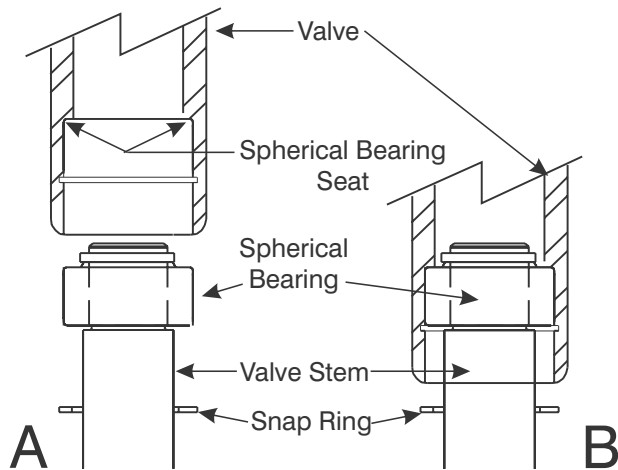

Figure 9-20. Proper Valve Seating
5. With the Valve (1) centered on the bearing, slowly press the Valve onto the Spherical Bearing. (2).
6. Only press the valve onto the Spherical Bearing until the internal shoulder of the Valve touches the top of the Spherical Bearing, as shown in Figure 9-20.